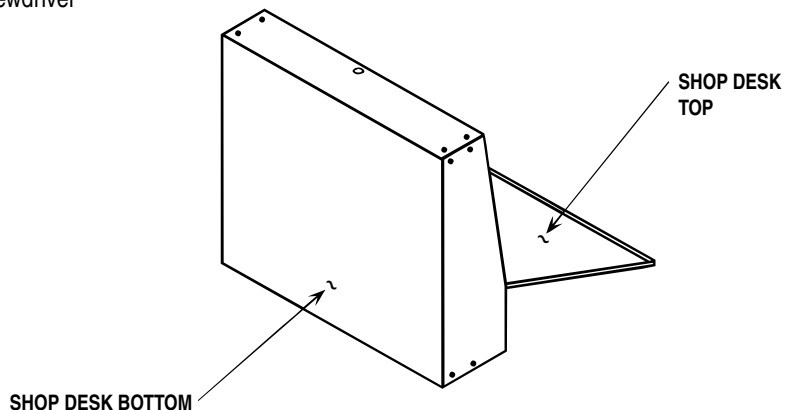

FIGURE 1
2. Stand the shop desk assembly (Item 1) on its back with top in open position. See Figure 1.